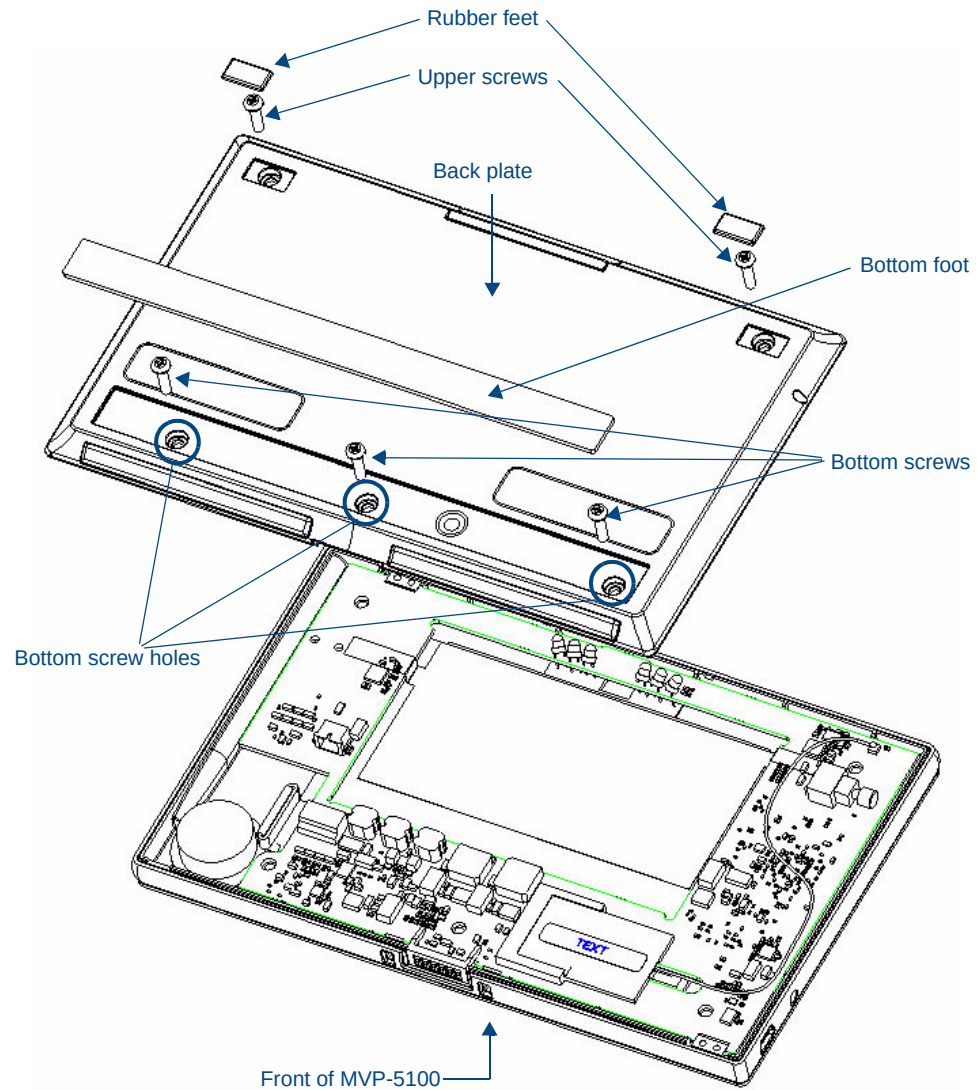

FIG. 88 MVP-5100 back plate installation
4. Insert the five screws and replace the rubber feet atop the two upper screws, using the replacement rubber feet included in the Battery Pack Kit (FIG. 88). Replace the bottom rubber foot over the three lower screws, using the replacement large rubber foot included in the Battery Pack Kit.